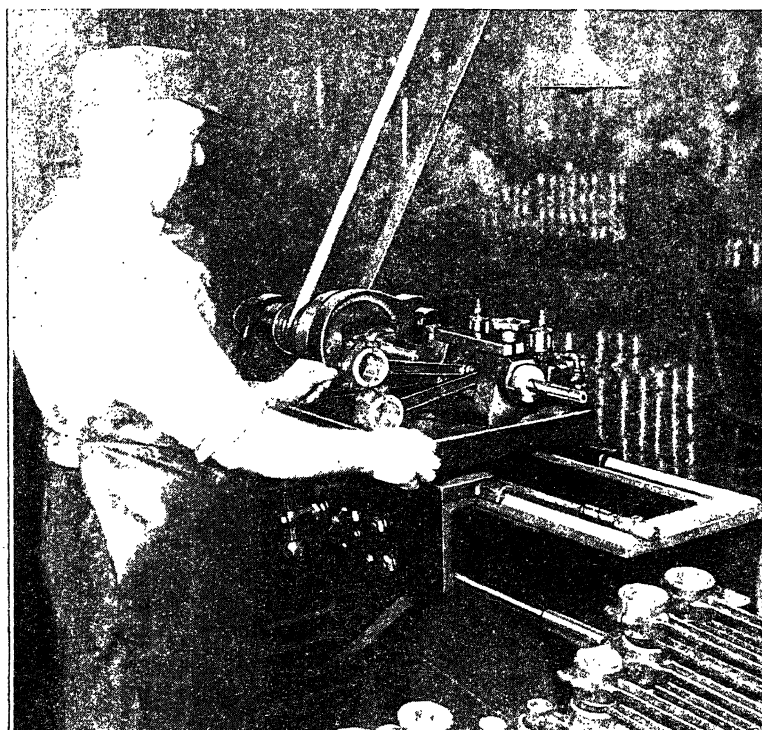

Fig. 17. Boring Out Connecting Rods (Small End) for Piston Pins
**Machining Connecting Rod Small End.** Fig. 17 shows equipment used to bore the hole in the small end of the connecting rod. It consists of a jig and boring bar on an engine lathe bed.